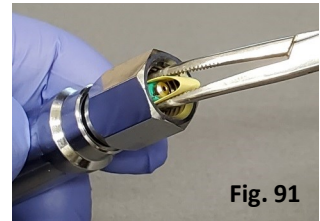

Fig. 91
2. The spool will likely remain either in the end of the gauge, or inside the hose nut. Pulling with a fingernail in the o-ring land, remove the spool. If heavily corroded, spool removal may require a tool (Fig. 91).